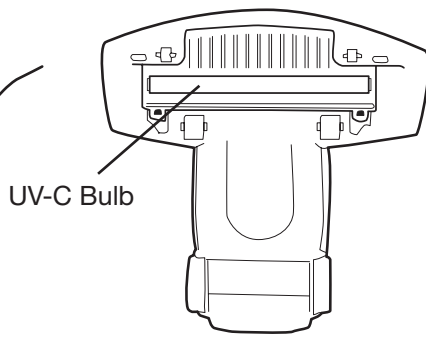

Figure 7
2. Using a soft lint-free cloth, carefully remove any dust from the protective cover and the UV-C bulb (see Figure 7).